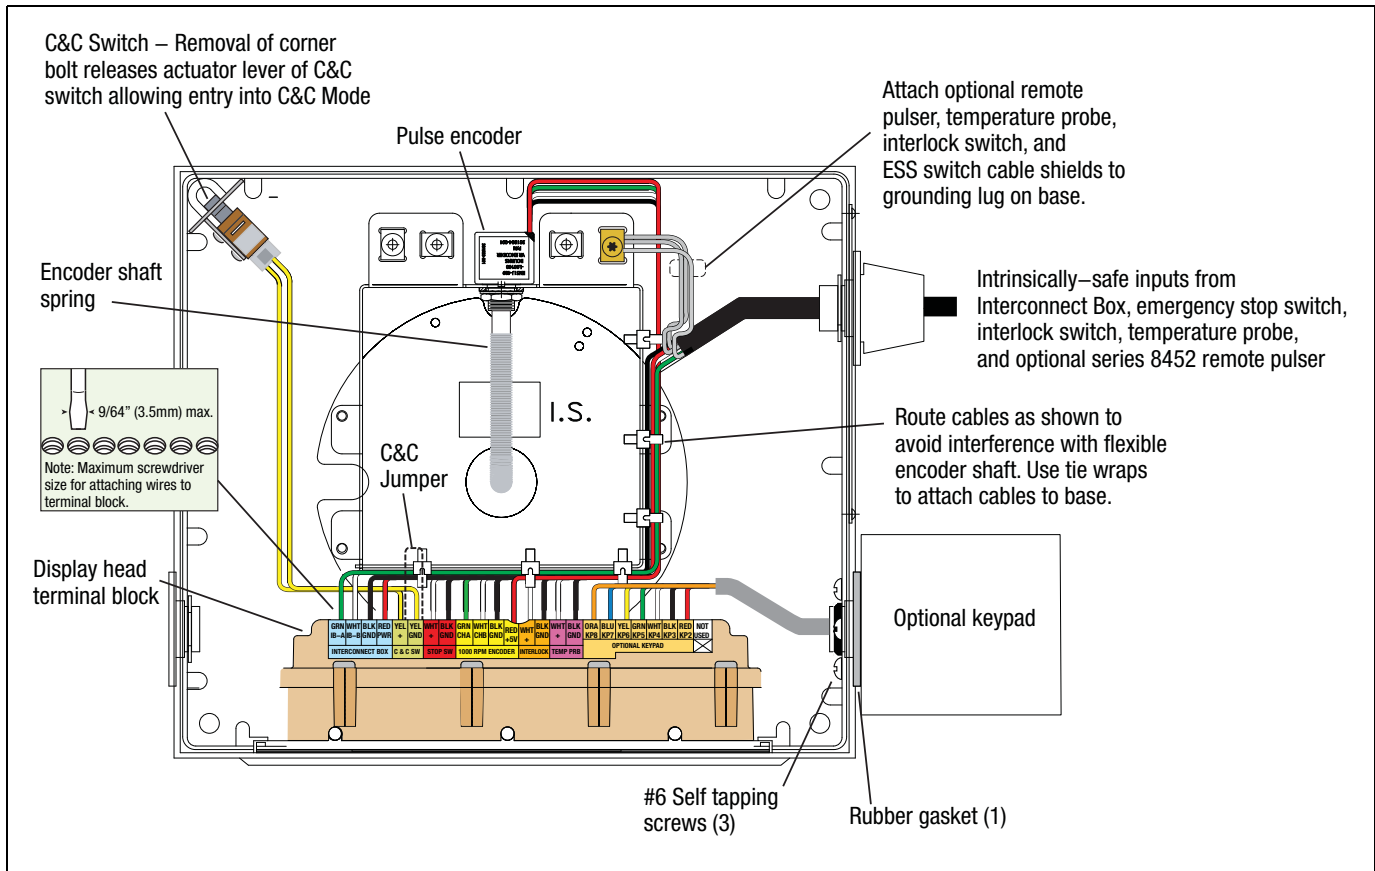

Figure 38. Display Head Cable Wiring And Switch Locations
2. Slide the cord grip nut and then the bushing over the IB cable leads. Pull enough cable through so that the leads reach the terminal block on the display assembly and can be tie wrapped to the pulse encoder mounting base as shown in Figure 38. Slide the tapered end of the bushing into the cord grip, then screw on the cord grip nut and tighten securely.
3. Attach the four-wire IB cable to the terminal block as shown in Figure 38.
4. If you have the optional temperature probe and/or ESS switch, remove the lower cord grip nut and slide it, then the tapered bushing, over the temperature probe cable and/or ESS switch cable. Pull enough cable through so that the leads reach the terminal block on the display assembly and can be tie wrapped to the pulse encoder mounting base as shown in Figure 38. Slide the bushing into the cord grip and then screw the cord grip nut onto the cord grip and tighten securely. Attach the shield of the temperature probe cable to a grounding lug on the Pulse Encoder mounting base.
1. A standard C&C corner switch assembly (P/N 845900-018) that fits into one corner of the Display Head's housing (see Figure 38). To enter C&C mode, remove the corner bolt from the Display Head's cover. To exit C&C mode, replace the bolt.
Figure 38 shows the installation and wiring of the optional keypad. To attach the keypad housing mounting screws you will need to pull/slide up the display assembly away from the Display Head. Insert the keypad wires through the center hole in the gasket, slide the gasket down against the keypad and align its three holes with the mounting holes in the keypad. Hold the keypad against the Display Head and screw in the 3 mounting screws, replace the display assembly and then connect the keypad wiring to the terminal block as shown in Figure 38. The screws are self-tapping. The user may want to pre-tap the holes using the screw to ease installation.